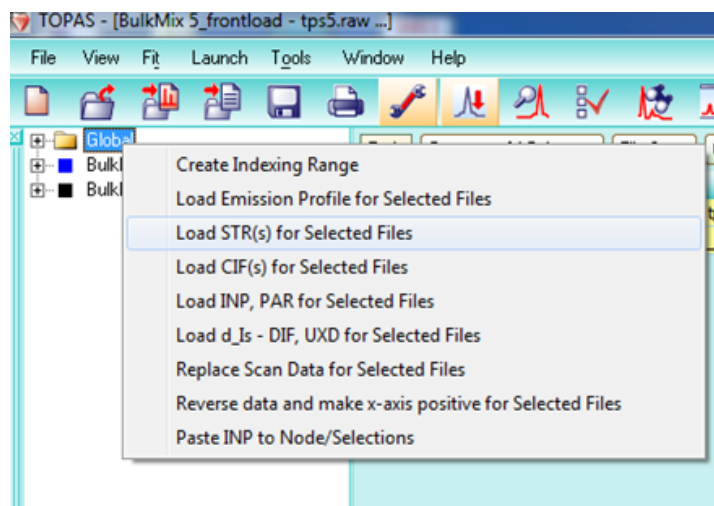

Figure 17. The 'Global' pathway to Load STR(s)
2. Back in the Parameter Window, right click on 'Global' and select 'Load STR(s) for Selected Files' (*Figure 17*).